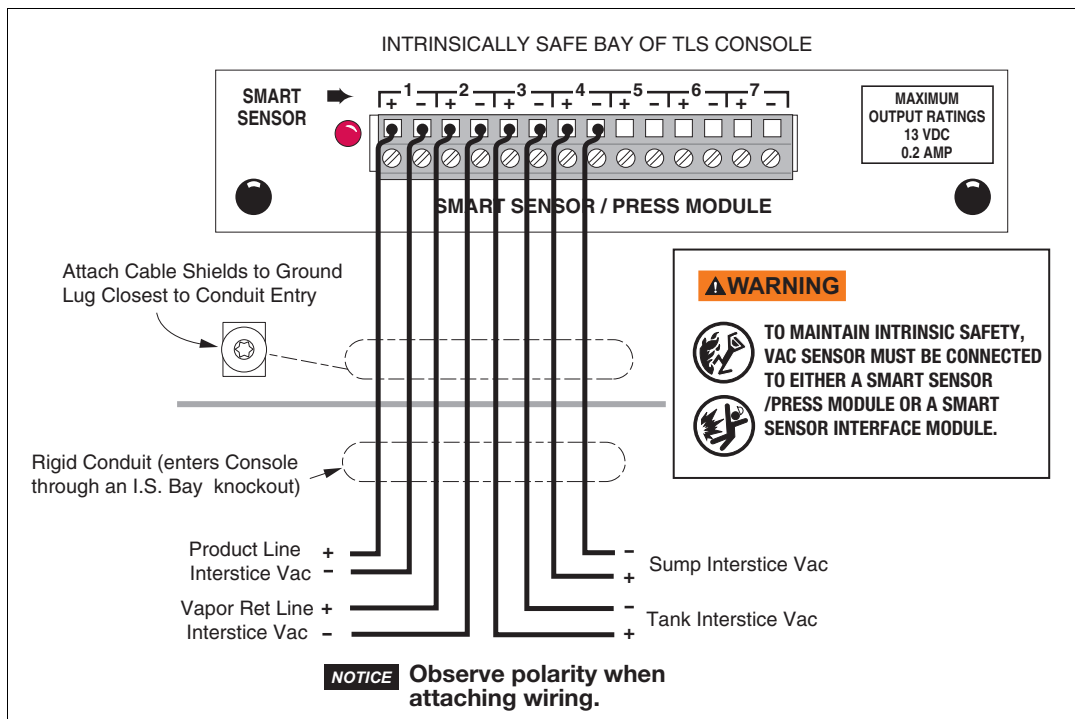

Figure 3-1.- Attaching Vac Sensors To Smart Sensor With Pressure Sensor Module
| Figure 3-1.- Attaching Vac Sensors To Smart Sensor With Pressure Sensor Module      | 3-1  |
1. Connect each Vac Sensor/Vac Float pair and the Vac Sensor/ Tank Interstitial Float pair cables to either a Smart Sensor with Pressure Sensor module or a Smart Sensor Interface module as shown in Figure 3-1. Note: at least one Smart Sensor with Pressure Sensor module must be installed in the console for proper Vac Sensor operation.